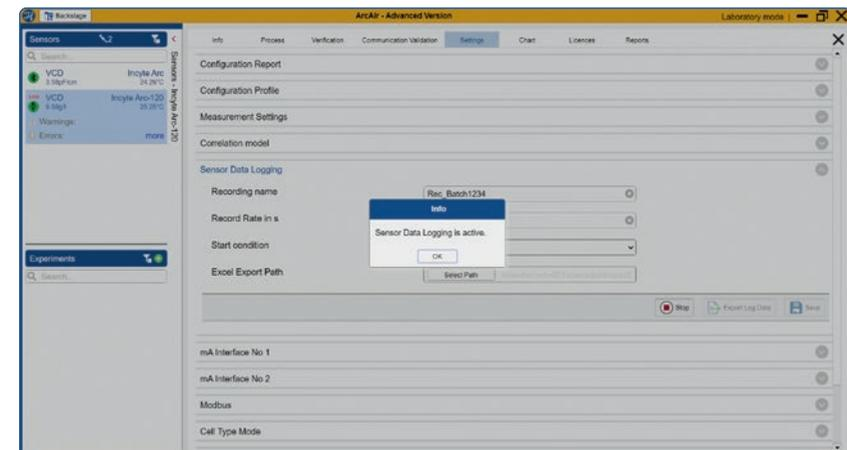
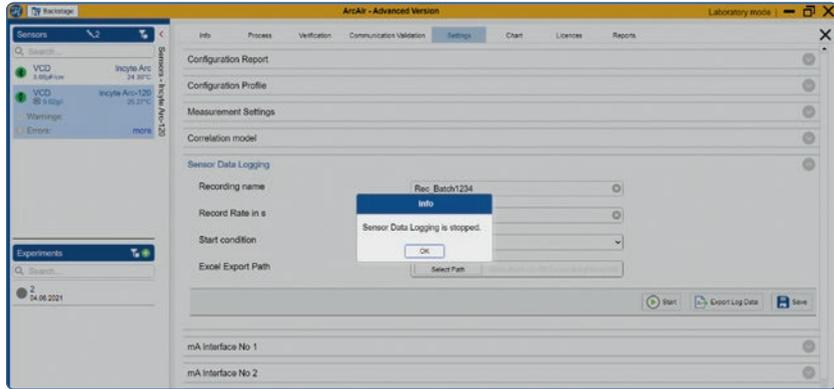

Figure 35: Example Screen of activated Sensor Data Logging
Figure 36: Example Screen of inactivated Sensor Data Logging
5. The configuration is confirmed with a pop up message (Figure 35).
Depending on the settings of point 3. The *Sensor Data Logging* will be started or stopped (see Figure 35 and Figure 36). Once the *Sensor Data Logging* has been started, a red «LOG» will indicate the data logging for the sensor in the *Sensor List* (see Figure 35).